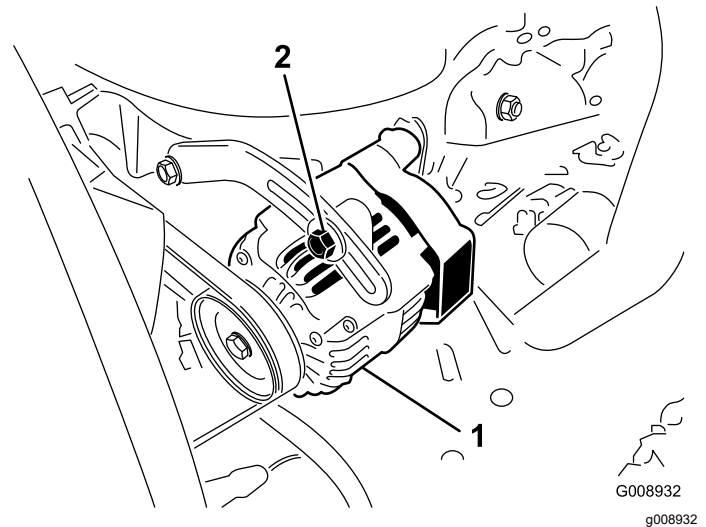

Figure 45
2. If the deflection is not 10 mm (3/8 inch), loosen the alternator mounting bolts (Figure 45).